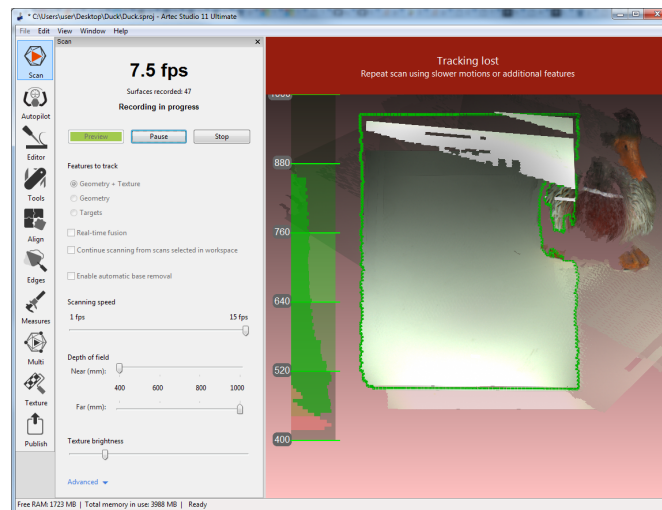

Figure 5.7.: Alert message: tracking lost.
- Artec Studio switches almost instantly from displaying *Tracking lost* mode (see Figure 5.7.) to *Searching for position*, which appears on a green background.